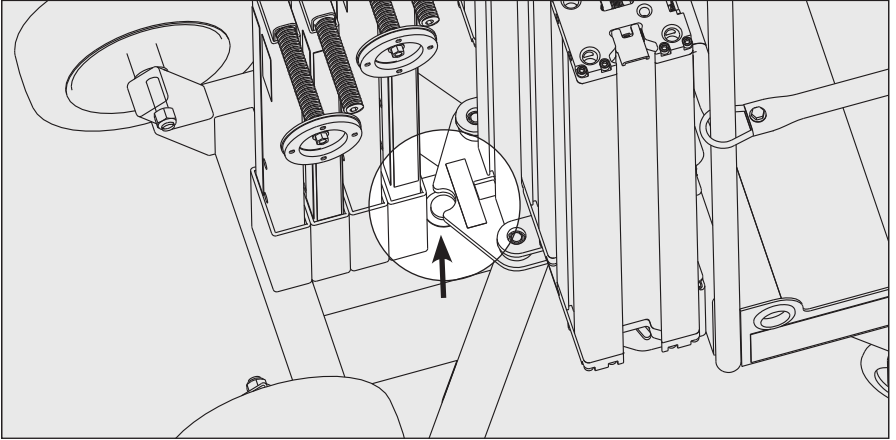

Figure 3-4 Bubble Level
3. Install front and rear outriggers in their designated positions. Using the drill and hex driver, level the chassis by adjusting each of the leveling jacks, until the bubble level is centered. (See Figure 3-4)